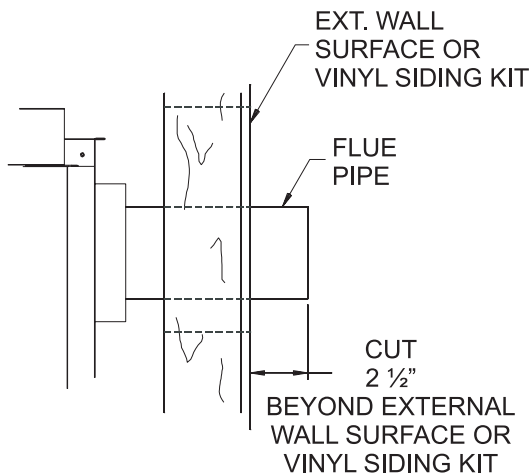

Figure 65
8. Attach the 4-inch diameter flue outlet tube onto the rigid venting system or directly to fireplace. Ensure the 4-inch diameter flue outlet tube is placed as far as possible onto the rigid venting system. Mark the 4-inch diameter flue outlet tube 2-1/2 inches beyond the vinyl siding kit or wall. **See Figure 65.** Remove the 4-inch diameter flue outlet tube from rigid venting system. When installing directly to fireplace, tape gasket needs to be used.